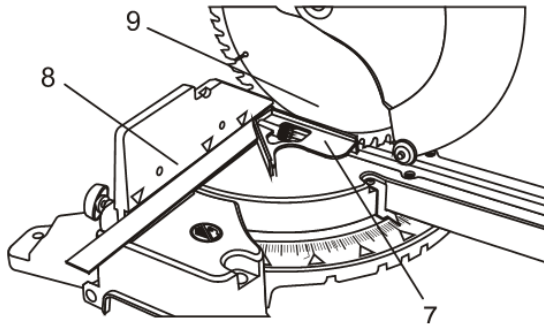

Fig. 8
5. Lock the handle in the down position. Hold a combination square (not provided) (7) against the fence (8) and beside the saw blade (9) (Fig. 8).